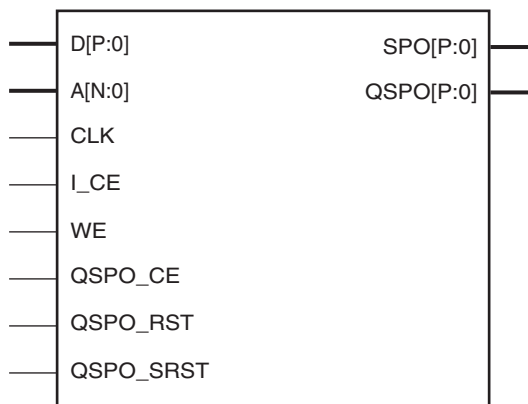
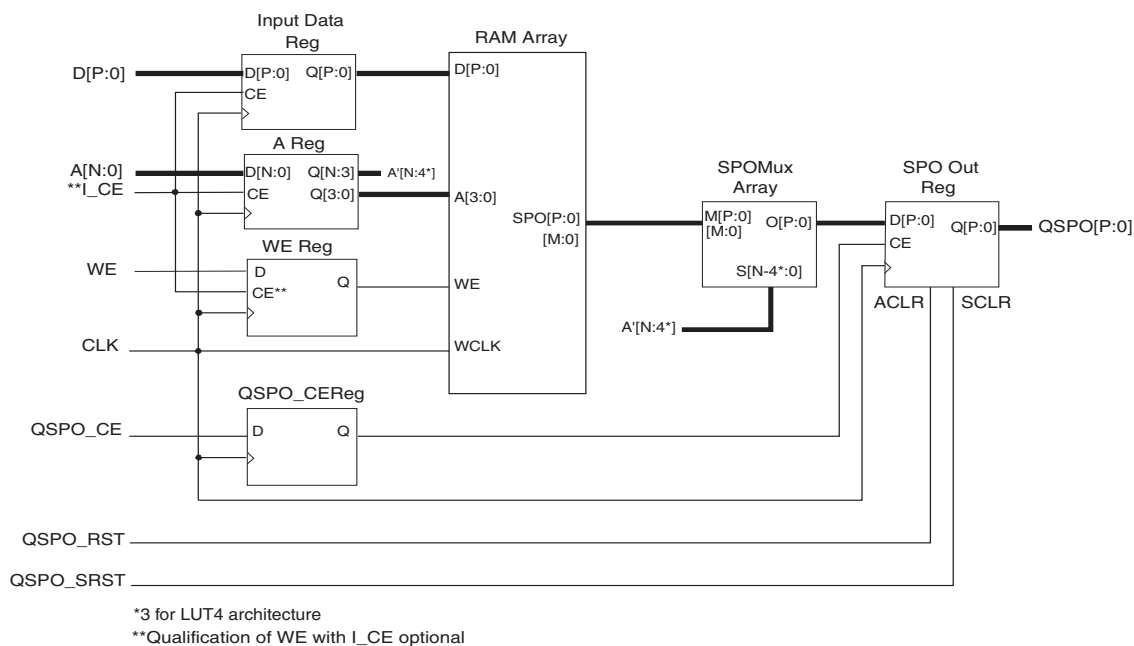

Figure 3: Distributed Single-Port RAM Schematic Symbol
Figure 4: Distributed Single-Port RAM Module Schematic
The distributed single-port RAM uses the single-port distributed RAM resource of the LUT. Writes to the Single-Port RAM are synchronous to the clock (CLK). However, read operations can be asynchronous (SPO) or synchronous to the clock (QSPO). Figure 3 illustrates the distributed single-port RAM schematic symbol, and Figure 4 illustrates its internal implementation. If a pipeline register is added to a registered core (not illustrated), the additional register is re-timed into the SPO MUX array. For timing information about the distributed single-port RAM, see the appropriate user guide for the target FPGA architecture.
- **Single-Port RAM.** Figure 4 is a schematic of the structure of the single-port RAM modules. The address and data registers are optional (controlled by the setting of the Input Options parameter). Output registering is also optional (controlled by the setting of the Output Options parameter). The resets and clock enables are optional. The clock CLK is always required because writes to the single-port RAM are synchronous to that clock.